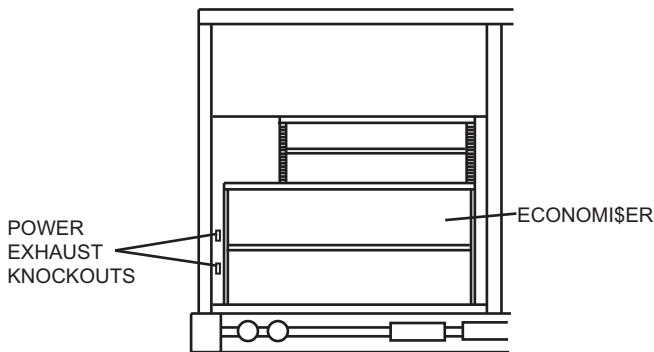

Fig. 2 — Power Exhaust Knockout Location
2. Remove the power exhaust knockout plugs located on the lower left side of the EconoMi\$er accessory. (See Fig. 2.)
2. Insert the 2-wire low voltage harness plug from the power exhaust into the top knockout on the EconoMi\$er. (See Fig. 2.)
6. Insert the high voltage harness plug from the power exhaust into the bottom knockout on the EconoMi\$er. (See Fig. 2 and 4.)
2. Insert the 2-wire low voltage harness plug from the power exhaust into the top knockout on the EconoMi\$er2 accessory. (See Fig. 2 and 9.)
6. Insert the high voltage harness plug from the power exhaust into the bottom knockout on the EconoMi\$er2 accessory. (See Fig. 2 and 9.)